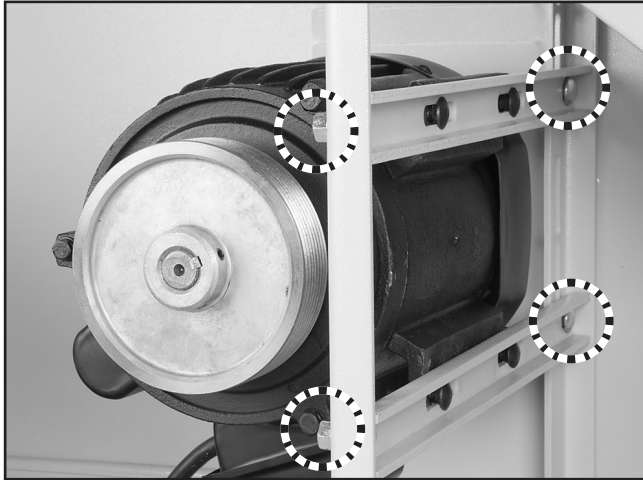

Figure 19. Motor mounting carriage bolts.
22. Loosen carriage bolts securing motor mounting brackets (see **Figure 19**), let motor slide down to tension V-belt, then retighten carriage bolts.